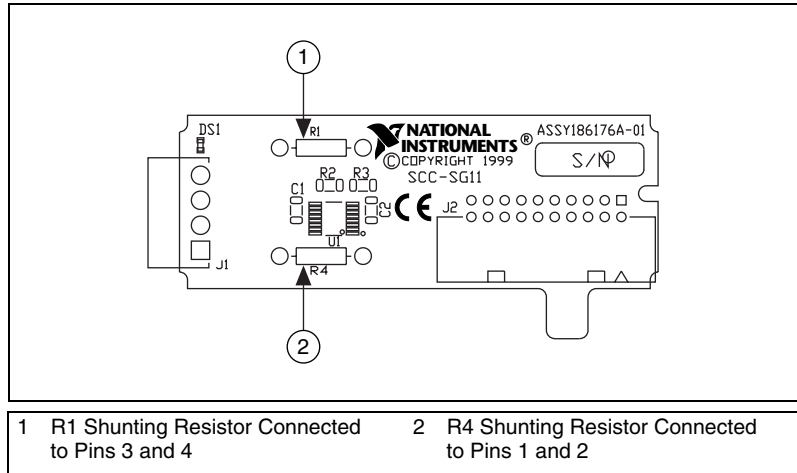

Figure 30. SCC-SG11 Parts Locator Diagram
6. Locate the shunting resistor and replace it. Refer to Figure 30 to locate the shunting resistor on the SCC-SG11.